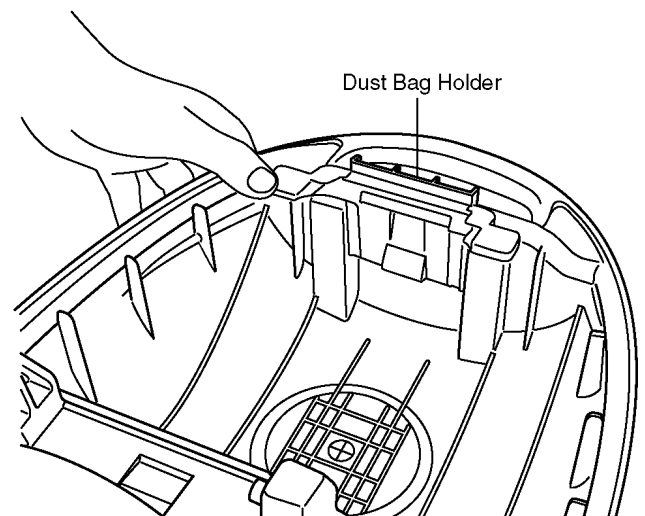

Fig.9
2. Fit one end of the dust bag into the upper body in such a manner that the spring does not protrude upward, and insert the other into the fitting hole from the lower part. (Fig.9)